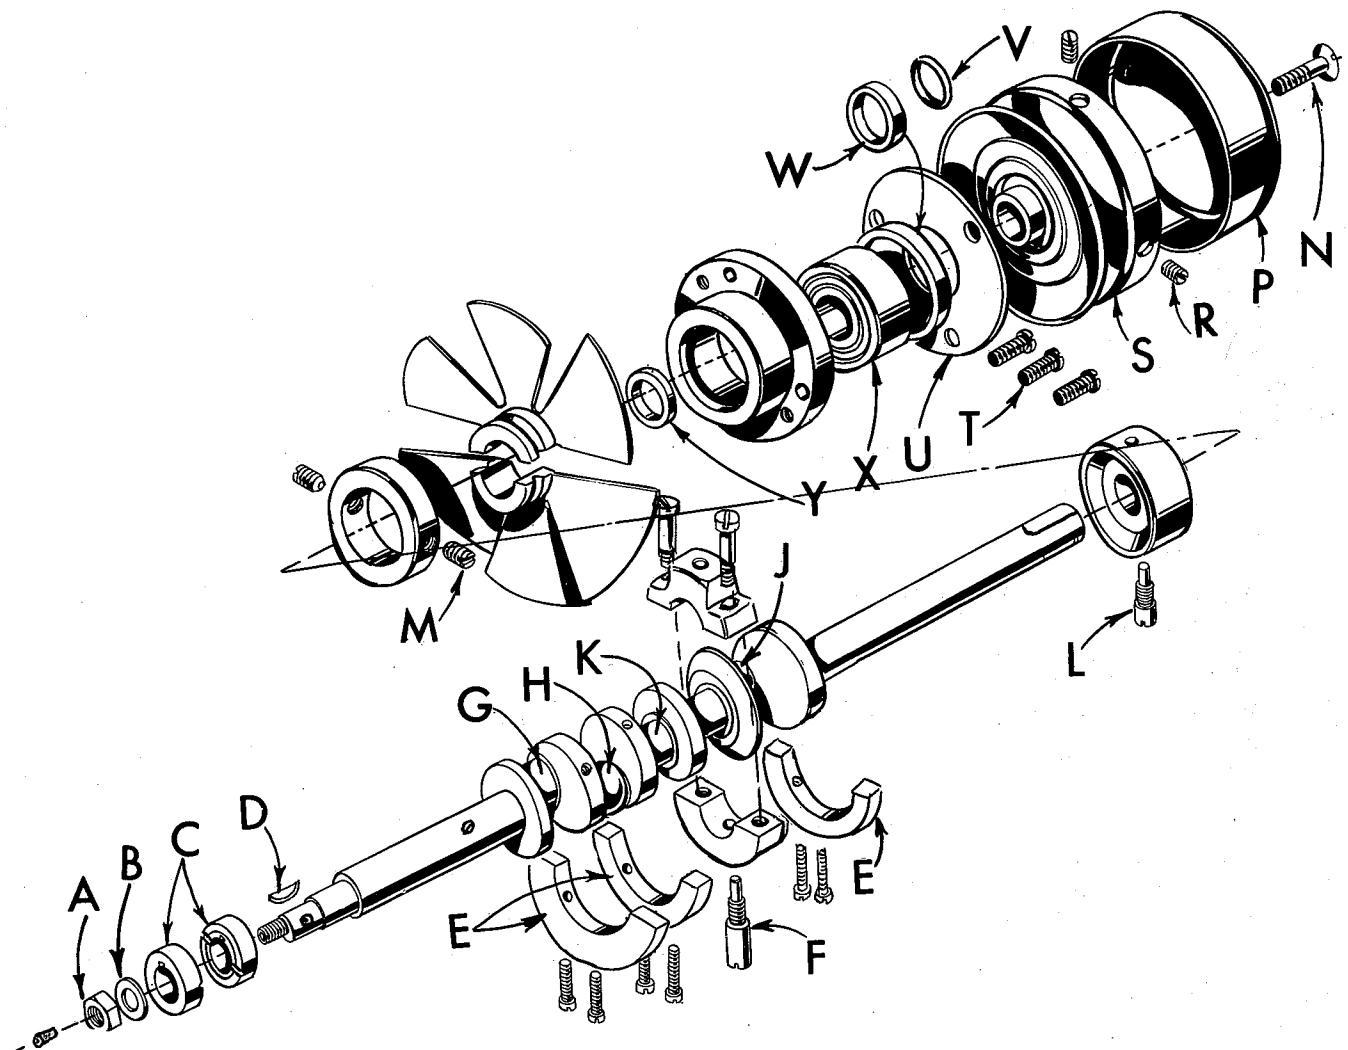
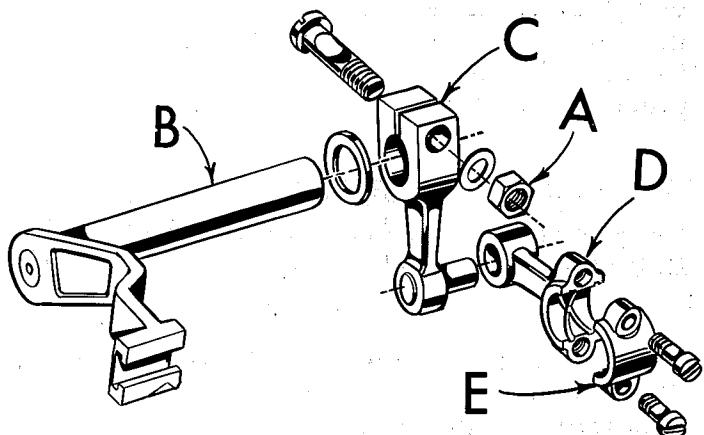

Fig. 17
Fig. 18
3. Remove feed eccentric nut (A, Fig. 17) and washer (B), and, with the aid of the eccentric extractor, slip off the eccentrics (C).
4. Remove key (D).
5. Remove three counterweights (E). Identify these counterweights so that they will be re-assembled in the proper places.
6. Remove screw (F) which holds crankshaft split bearing. This screw is reached through bottom of bed casting.
8. Loosen clamp nut (A, Fig. 18) which holds upper knife driving arm (B). Access to clamp nut is through top cover. Draw driving arm to the left until upper knife driving lever (C) and connecting rod (D) drop, allowing removal of bearing cap (E). This is at bearing point (K, Fig. 17) on crank-shaft. Observe same precautions when re-assembling cap as described in 7 above.
9. Remove screw (L, Fig. 17) which holds inner right crankshaft bearing. This screw is reached through bottom of bed casting.
10. Loosen two screws (M) in fan collar; remove both halves of cooling fan.
11. Remove screw (N); take off pulley cap (P).
12. Loosen two screws (R); remove pulley (S).
13. Remove three screws (T); take off bearing retaining plate (U); also, spacer collars (V) and (W) may be removed at this time.
15. If necessary to replace ball bearing (X), it should be pressed off shaft on an arbor press. In replacing bearing it must be pressed on carefully until it seats against ground thrust washer (Y).